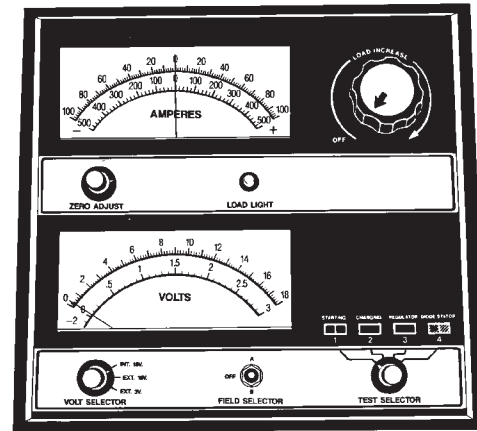
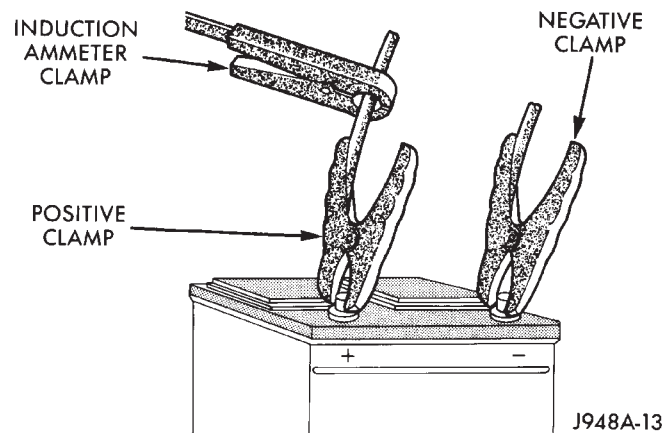

Fig. 6 Volt-Ammeter-Load Tester - Typical
Fig. 7 Volt-Ammeter-Load Tester Connections - Typical
(1) Disconnect and isolate both battery cables, negative cable first. The battery top and posts should be clean.
(2) Connect a suitable volt-ammeter-load tester (Fig. 6) to the battery posts (Fig. 7). Refer to the operating instructions provided with the tester being used. Check the open-circuit voltage (no load) of the battery. Open-circuit voltage must be 12.4 volts or greater.